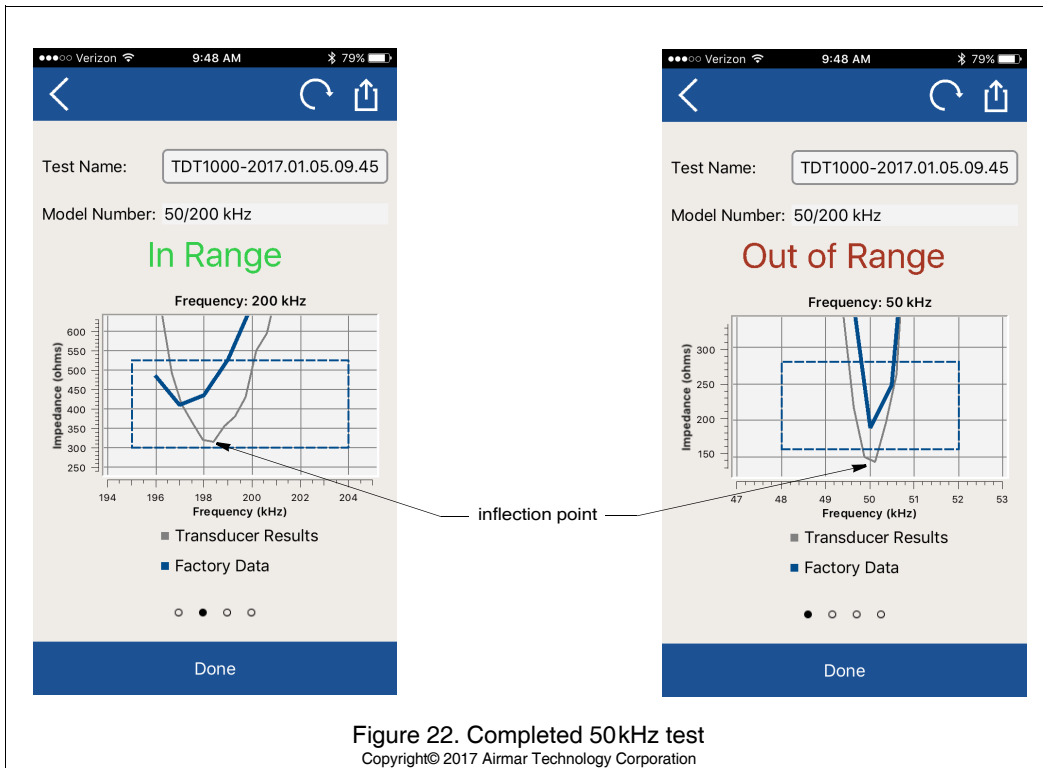

Figure 22. Completed 50kHz test
- “Done” will appear on the blue ribbon at the bottom of the screen when the test is finished (Figure 22).